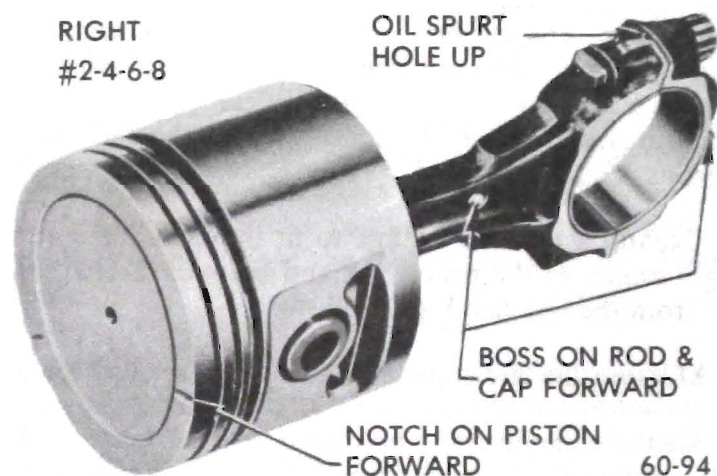

Figure 60-44 - Right Bank Piston and Rod Assembly (455 cu.in. Engines)
3. If the piston and rod assembly is to be installed in the *right* bank, the assembly must be made as shown in Figures 60-44 and 60-45.